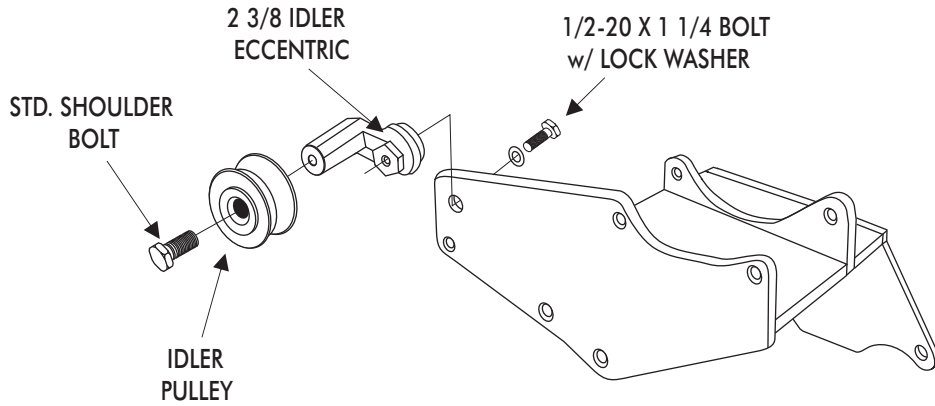

FIGURE 2
- 5. LOOSELY ATTACH IDLER ASSEMBLY TO THE COMPRESSOR MOUNTING BRACKET. **SEE FIGURE 2 PAGE 5**